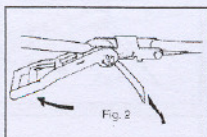

Fig. 2
- when the connections are properly made, open the lever of the tensioner and have the strap slip in the tensioner in order to obtain a minimum of slack (Fig. 2)